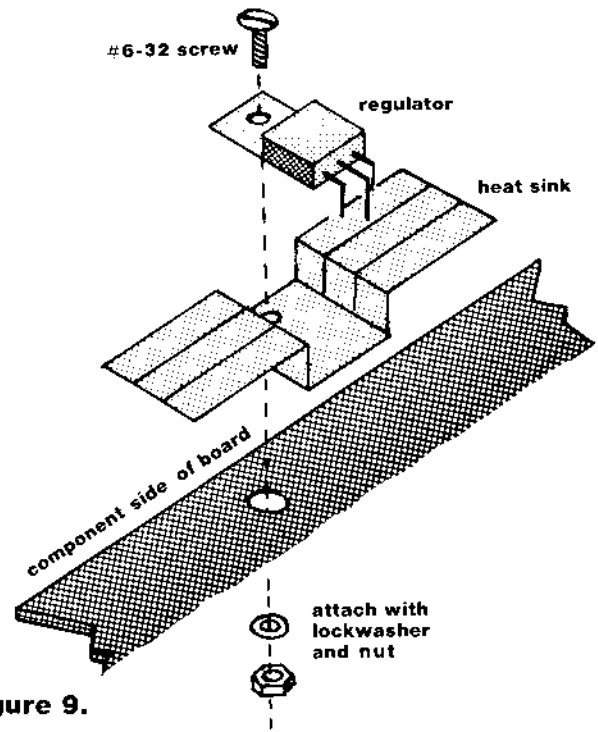

Figure 9.
4. Mount the three regulators and the regulator heat sinks in place. Referring to figure 9, observe that the heat sinks mount on top of the board, and then, the regulators mount on top of the heat sinks. If desired, a small dab of heat sink compound may be added between the regulator cases and heat sinks to improve thermal transfer from regulator to sink. Again referring to figure 9, bend all regulator leads as shown, then bolt the heat sink regulator assemblies into place using the provided nut, bolt, and lockwasher hardware. After these assemblies are in place, solder the regulator leads on the non-component side of the board.